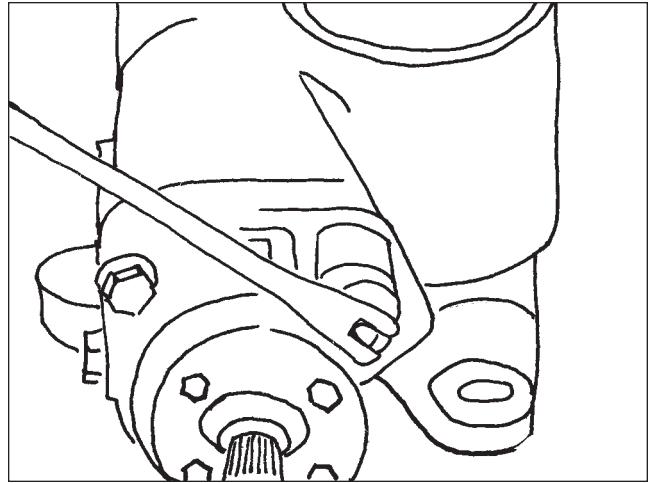

Figure 97
12. Remove the attaching bolts from the bearing cap and turn the input shaft to free the bearing cap assembly from the housing (Figure 97).